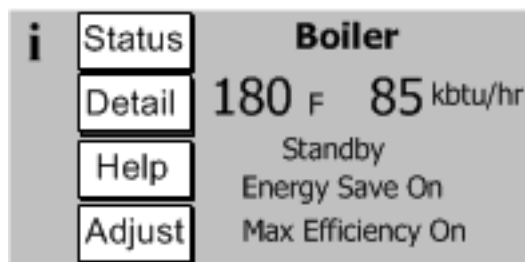
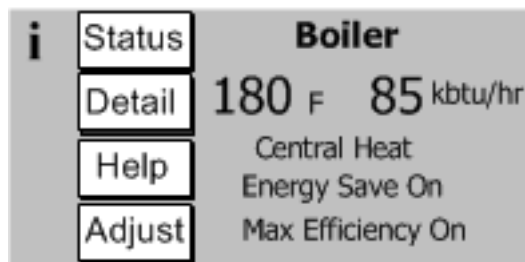

Figure 11.1a: Home Screen at Power-Up (No Call for Heat)
Figure 11.1b: Home Screen on Heat Demand
- 11) Start the boiler using the operating instructions on page 106. With the boiler powered up, and with no call for heat, the display should look like Figure 11.1a. Once a call for heat is present, it will look like Figure 11.1b.